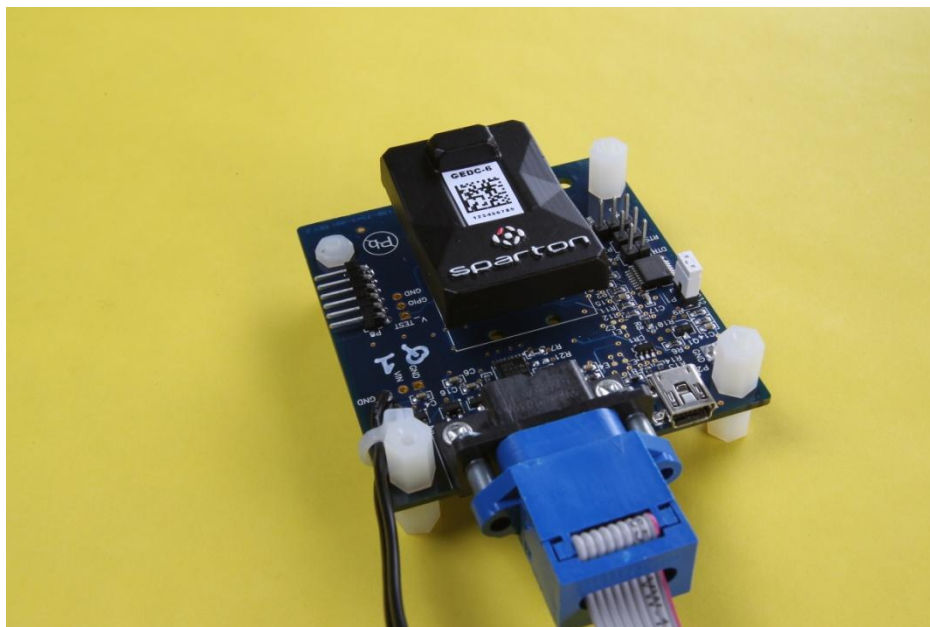

FIGURE 1: NDS-1 ADAPTER BOARD
The NDS-1 Adapter Board is shown in Figure 1 with the navigation sensor module installed.
- 5) Install the Sparton navigation sensor module (DC-4, GEDC-6, AHRS-8) into the NDS-1 Adapter Board connector (the connector is keyed) per Figure 1.
- 7) The NDS-1 Adapter Board has several jumper blocks (Figure 1) as noted by Adapter Boards silkscreen as P1, P3, P4 and P7. These connectors are further described in the NDS-1 Navigation Development System Users Guide. Follow the applicable instructions below depending upon whether USB or RS232 cable connectivity is chosen.